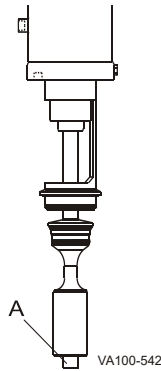

Figure 22 - Valve Stem Removal
1. Lower stem removal: Using an open end wrench, remove the lower stem (Figure 22, item A) from the actuator by turning it counter-clockwise.